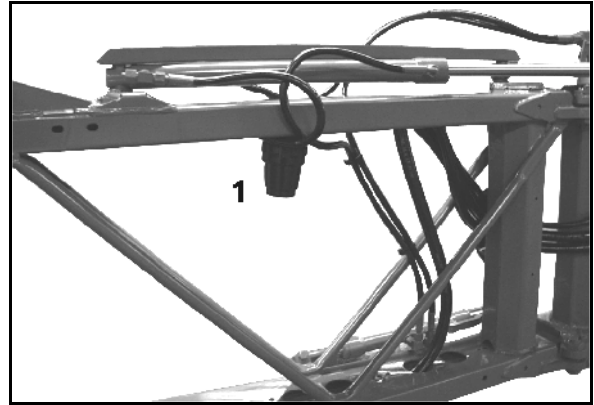

Fig. 152
- Clean the hose filters (Fig. 152/1) depending on the operational conditions approx. every 3 – 4 months.